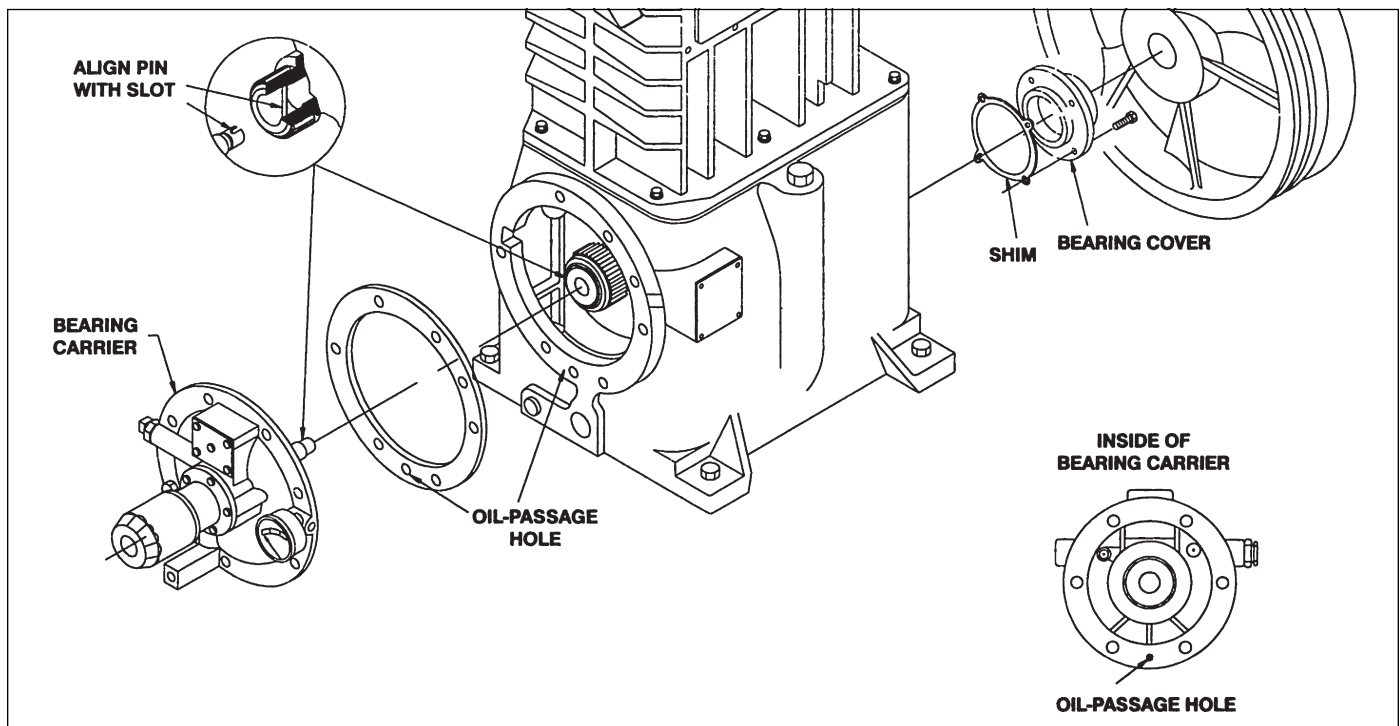

Figure 4.7: Crankcase Bearing Replacement
2. Press the new bearings into position and reassemble the crankshaft and bearing carrier to the crankcase. When reinstalling the bearing carrier, make sure the oil pump shaft slot is aligned with the pin in the crankshaft. Make sure to install the bearing carrier gasket so the oil passage hole is not blocked (see figure 4.7).